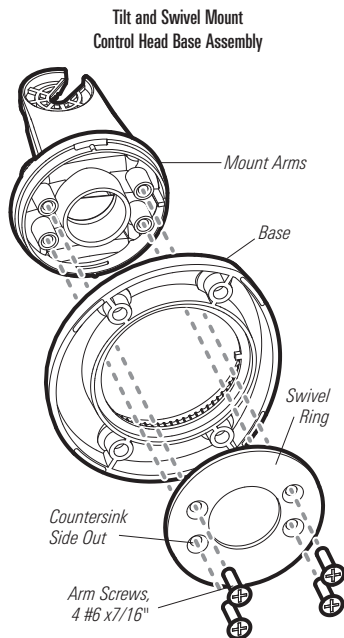

Figure 28
3. Secure the mount arms with the four #6 screws provided (Figure 28). **Hand tighten only!**